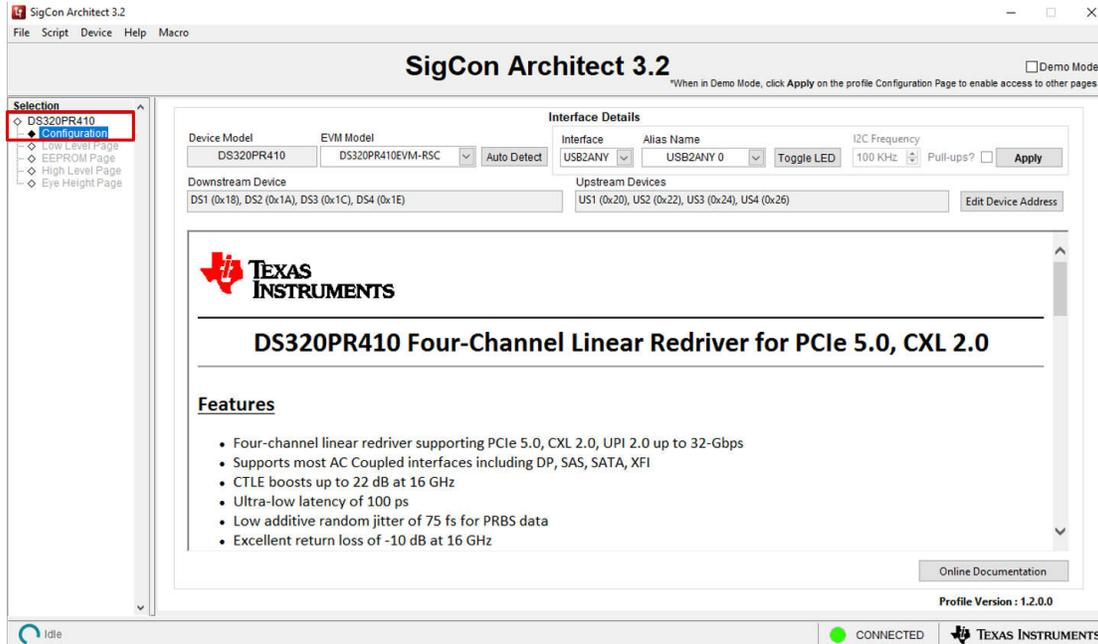

Figure 2-1. DS320PR410 Configuration Page
2. Click the *Configuration* tab below the DS320PR410 profile on the left side of the GUI, as shown in Figure 2-1.